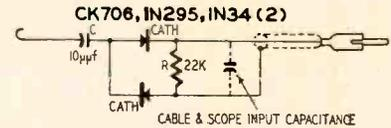

Fig. 6—The high-frequency probe.
- Fig. 6
The high-frequency detector probe (Fig. 6) is a voltage-doubler type, designed to give maximum output with adequate bandwidth. C is low in capacitance to reduce loading on the circuit under test. The value of R is a compromise between output amplitude and output bandwidth (modulated-signal frequency response). The output bandwidth with the component values shown in Fig. 6 is dc to approximately 100 kc, adequate to display the horizontal sync pulses at the correct amplitude. The crystals used (1N295, CK706 or 1N34) must be small enough to fit in the probe assembly; those used in the original model are about the size of a 1/2-watt resistor. Any crystals having similar size and electrical characteristics may be used. Somewhat larger types may be used if homemade probes are used. Electrical characteristics are not critical, those with a higher inverse voltage rating being preferable.